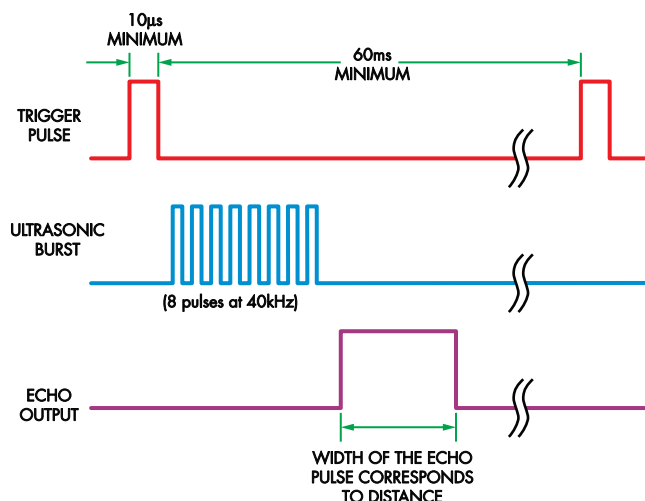

Fig.2: there must be a delay of 60ms between trigger pulses to prevent late echoes from affecting successive readings.
Its compact 16-pin small outline (SO) SMD package contains an I²C data bus interface, address decoding for the 18 internal time, date and control registers, a temperature sensor and a power control circuit which can swing over to the backup battery when the supply voltage (V_{CC}) fails. Its block diagram is shown in Fig.2.
Fig.2: block diagram for the DS3231. A comparator monitors both V_{CC} and V_{BAT} and the DS3231 is powered from whichever is higher. The oscillator is automatically temperature-compensated for accuracy.
the highest frequency that can be heard by human ears. The burst of transmitted energy consists of eight pulses at 40kHz, so the transmitted burst lasts for only 200µs, as shown in Fig.2.
As shown in Fig.2, each measurement cycle begins when a positive trigger pulse of at least 10µs duration is applied to the HC-SR04 module's trigger input pin. When the echo has been detected, it then produces a pulse at the echo output pin. Note that there should be at least 60ms between trigger pulses, to prevent late echoes from one cycle causing false readings on the next. So in practice, it's a good idea to limit the trigger pulse frequency to no more than 16Hz.